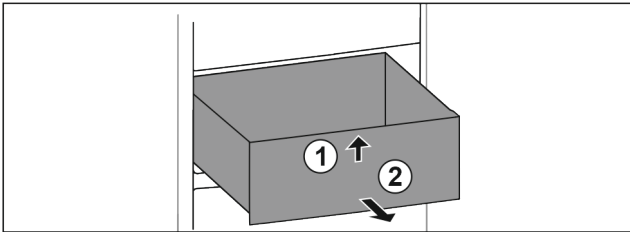

Fig. 13
- ▶ Lift at the front Fig. 13 (1).
- ▶ Take out to the front Fig. 13 (2).